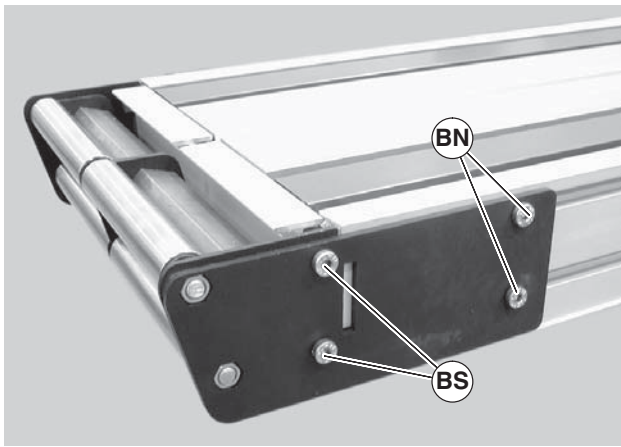

Figure 55
2. On one side of conveyor, loosen the two (2) back fastening screws (Figure 55, item BN), and remove the two (2) front fastening screws (BS).